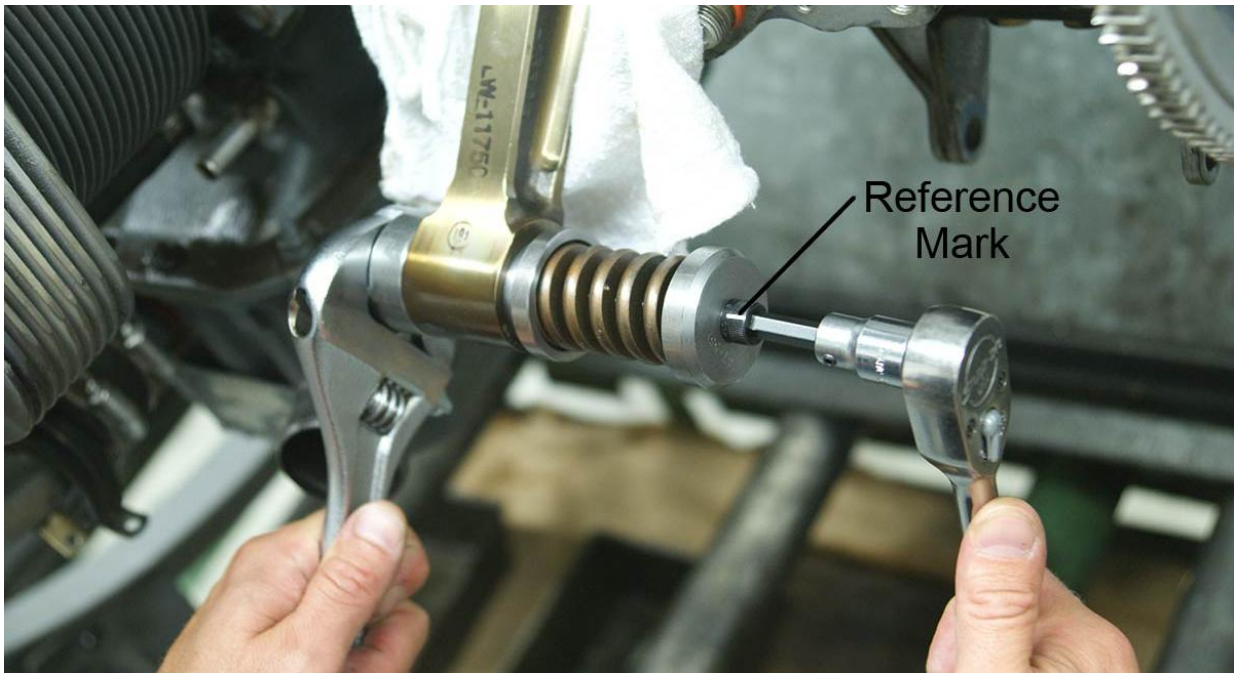

Figure 10
8. Use a wrench to hold the bottom section of ST-531 and turn the bolt with the ratchet and 1/4-inch Allen socket clockwise six full turns (Figure 10). **Do not exceed 6 turns.**